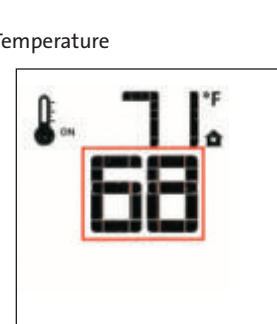

Figure 7.11. Change Set Temperature
- To adjust the Set Temperature, press the Up or Down Arrow Keys until the desired Set Temperature is displayed. Fig. 7.11.